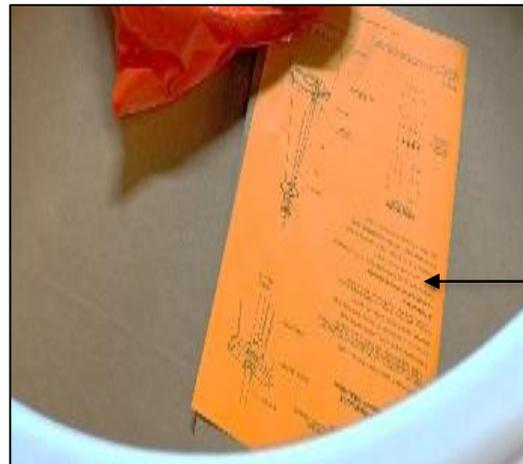

FIG.4 - INSTALLATION INSTRUCTIONS
2. INSTALLATION INSTRUCTIONS (shown in FIG. 4) - Please completely read the install instructions before starting installation.